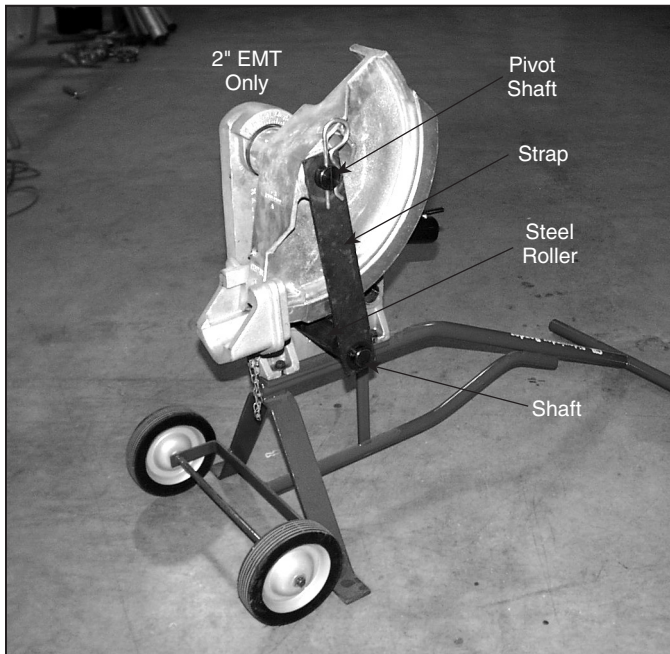

Fig. 6
- The shoe is placed on the pivot shaft in the same way as other shoes. The washer is not used to secure the shoe. Instead a shaft and strap assembly is used. See figure 6.
- Insert the shaft and strap assembly into the frame opening marked 2T. Place the strap over the pivot shaft and insert the hairpin cotter in the pivot shaft, figure 6.